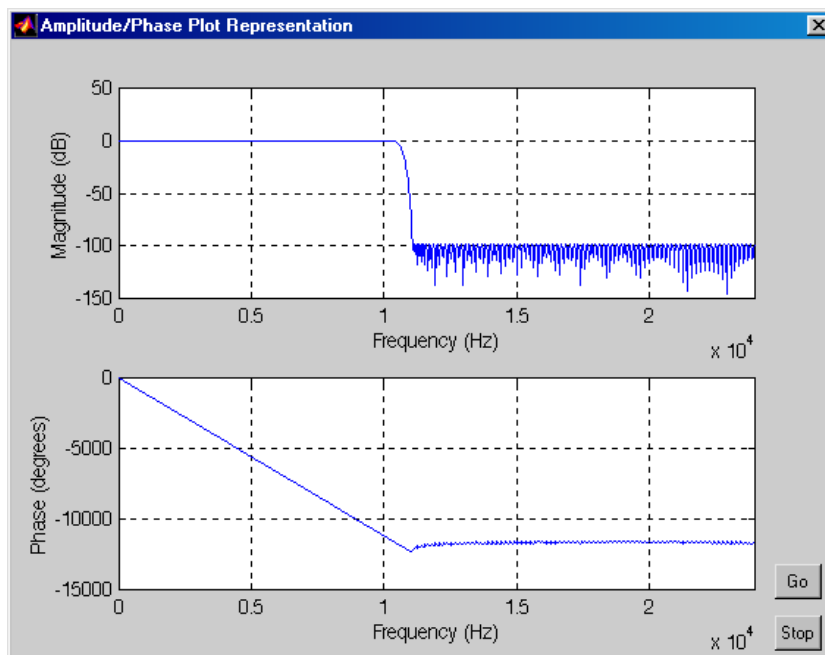

Figure 5 - Amplitude/Phase Plot – Immediate Mode Operation, Single
12. **Generate the Coefficients:** CLICK on **Apply** to start the immediate mode of coefficients generation process and send the set of coefficients to the MatLab™ workspace. This also starts the Amplitude/Phase Plot shown in **Figure 5** below: